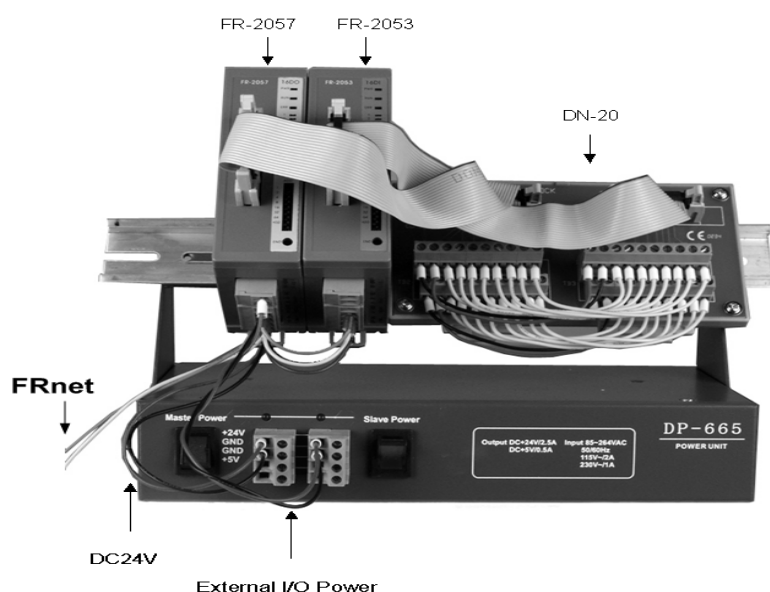

Figure 7.1
Step 1: Connect the FR-2053 and the FR-2057(Refer to figure 7.1).